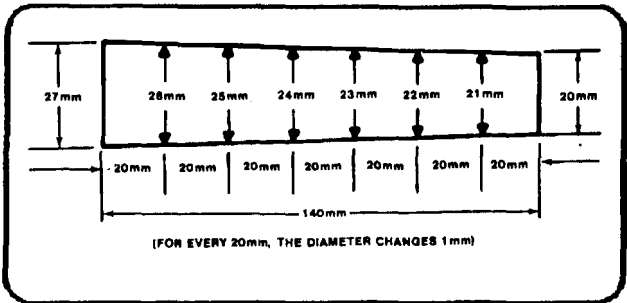

Figure 7-66. Metric taper, 1:200mm.
Metric tapers can also be calculated for taper turning by using the offset tailstock method. Metric tapers are expressed as a ratio of 1 mm per unit of length. Figure 7-66 shows how the work would taper 1 mm in a distance of 20 mm. This taper would then be given as a ratio of 1:20 and would be annotated on small diameter (d) will be 1 mm greater (d + ). Refer to the following formula for calculating the dimensions of a metric taper. If the small diameter (d), the unit length of taper (k), and the total length of taper (l) are known, then the large diameter (D) may be calculated. The large diameter (D) will be equal to the small diameter plus the amount of taper. The amount of taper for the unit length (k) is (d + 1) - (d). Therefore, the amount of taper per millimeter of unit length = (1/k). The total amount of taper will be the taper per millimeter (1/k) multiplied by the total length of taper (l).